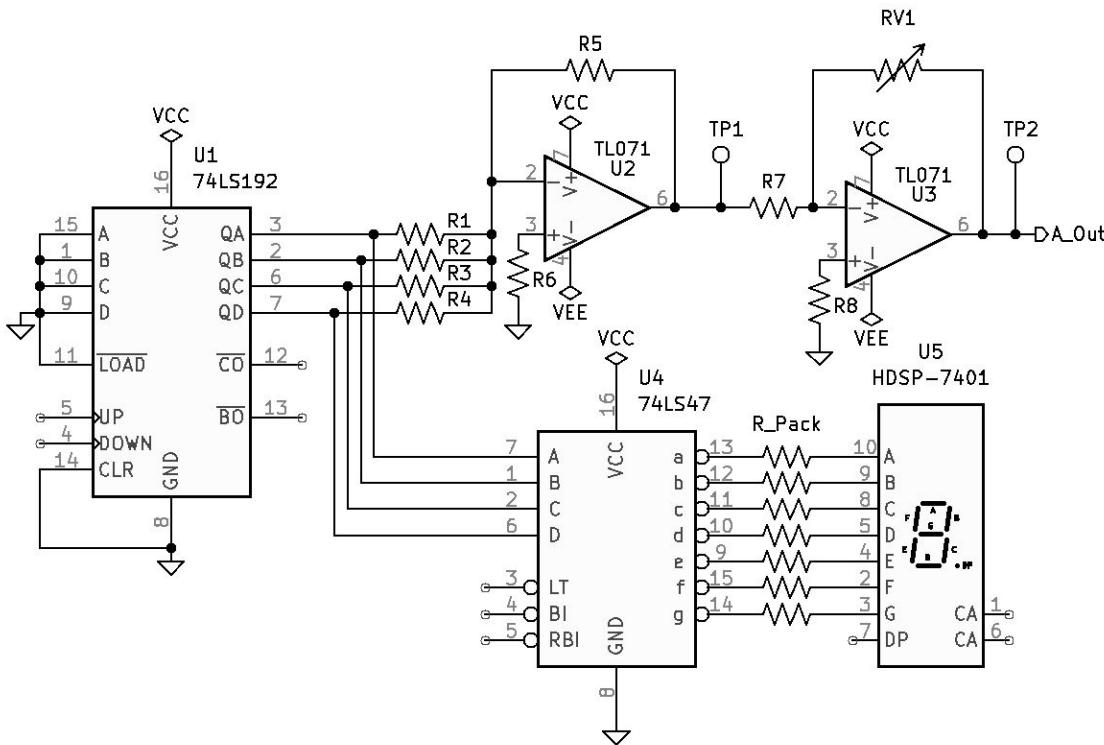

Figure 8.1: DAC Engineering Department Prototype Circuit.
1. The Engineering Department has sent you a DAC prototype circuit that they are working on. The DAC circuit is not working as expected. The Engineering Department needs you to analyze the circuit and make sure all the connections are correct. See Figure 8.1 *DAC Engineering Department Prototype Circuit* on page 84.